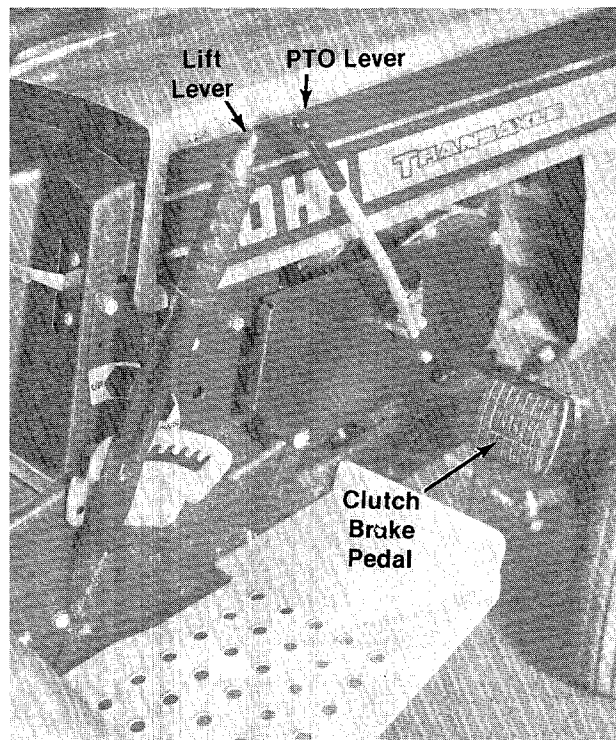

FIGURE 15
**e. PTO Lever.** The PTO lever engages the deck belt when it is moved forward. Moving it to the rear disengages the deck belt. The engine will not start unless the PTO is in the OFF position as shown in figure 15.
**f. Lift Lever.** Depress the thumb button and pull back on the lift lever to raise the attachments. See figure 15.
Step 3. Place the PTO lever in the OFF position as shown in figure 15.
Step 4. Depress the clutch brake pedals all the way down. See figure 15.
Move the PTO lever towards you to stop the blades from turning. See figure 15.